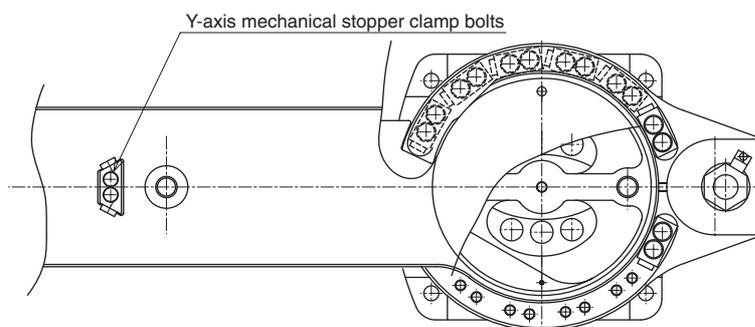

Fig. 3-100
- 5) Remove the Y-axis mechanical stopper clamp bolts and then remove the mechanical stopper. (Fig. 3-100)